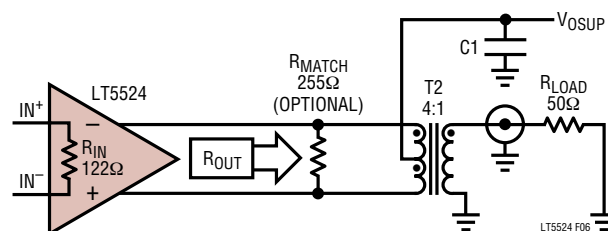

Figure 6. Output Impedance-Matched and Transformer-Coupled to a Single-Ended Load
- The insertion loss of the output impedance transformation network (for example the transformer insertion loss in Figure 6)
- About –3dB loss if a matching resistor (R_{MATCH} in Figure 6) is used to provide output load impedance back-matching (for example when driving transmission lines)